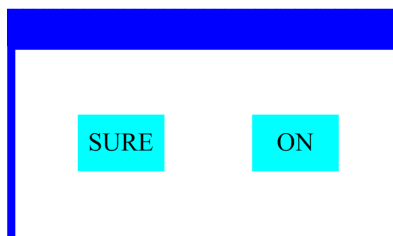

Figure 5 Dialog of confirm
- I When the parameter is a key item, chick corresponding item, a dialog shown in Figure 5 will been popup ask for the confirm. Chick 'sure' to confirm.